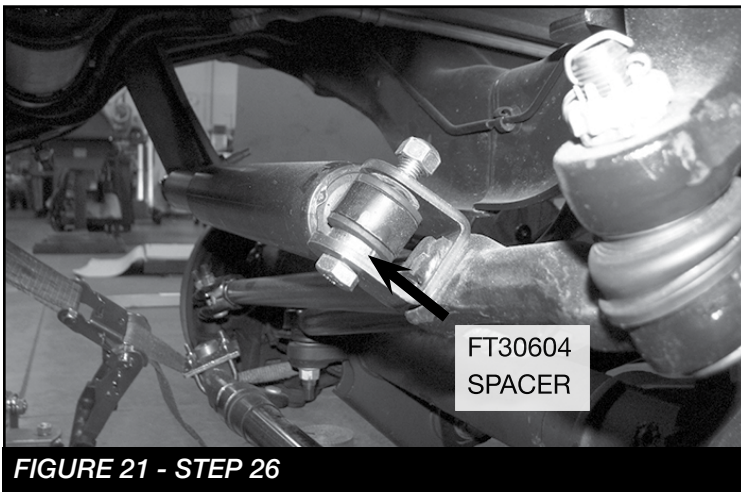

FIGURE 21 - STEP 26
26. Install FT30686 (Stabilizer Clevis) on the factory steering stabilizer using the supplied M12 hardware. **NOTE: Install FT30604 (spacer) like shown in the figure below.** Install the stabilizer using the supplied 1/2" washer and nut to the drag link. Using the factory hardware install the tapered end into the new Fabtech bracket. Torque to 127 ft-lbs. **SEE FIGURE 21**